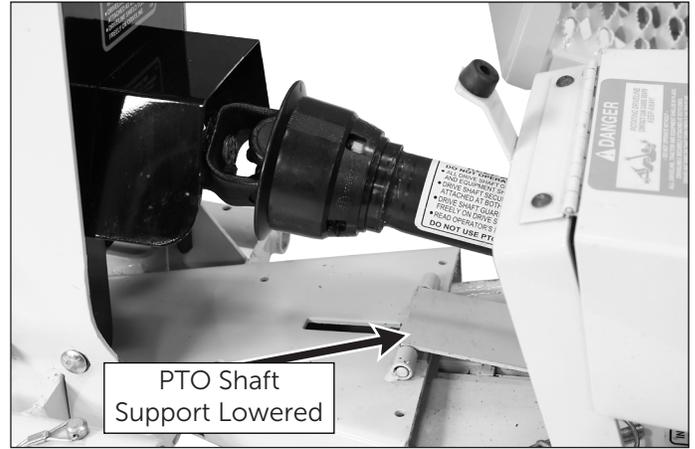

Figure 2.8: PTO Shaft Support Lowered
5. Prior to attaching the PTO coupler to the tractor PTO shaft, lower the PTO shaft support on the debris blower. The PTO shaft support **MUST** be lowered (as shown in Figure 2.8) to connect the PTO shaft to the tractor.